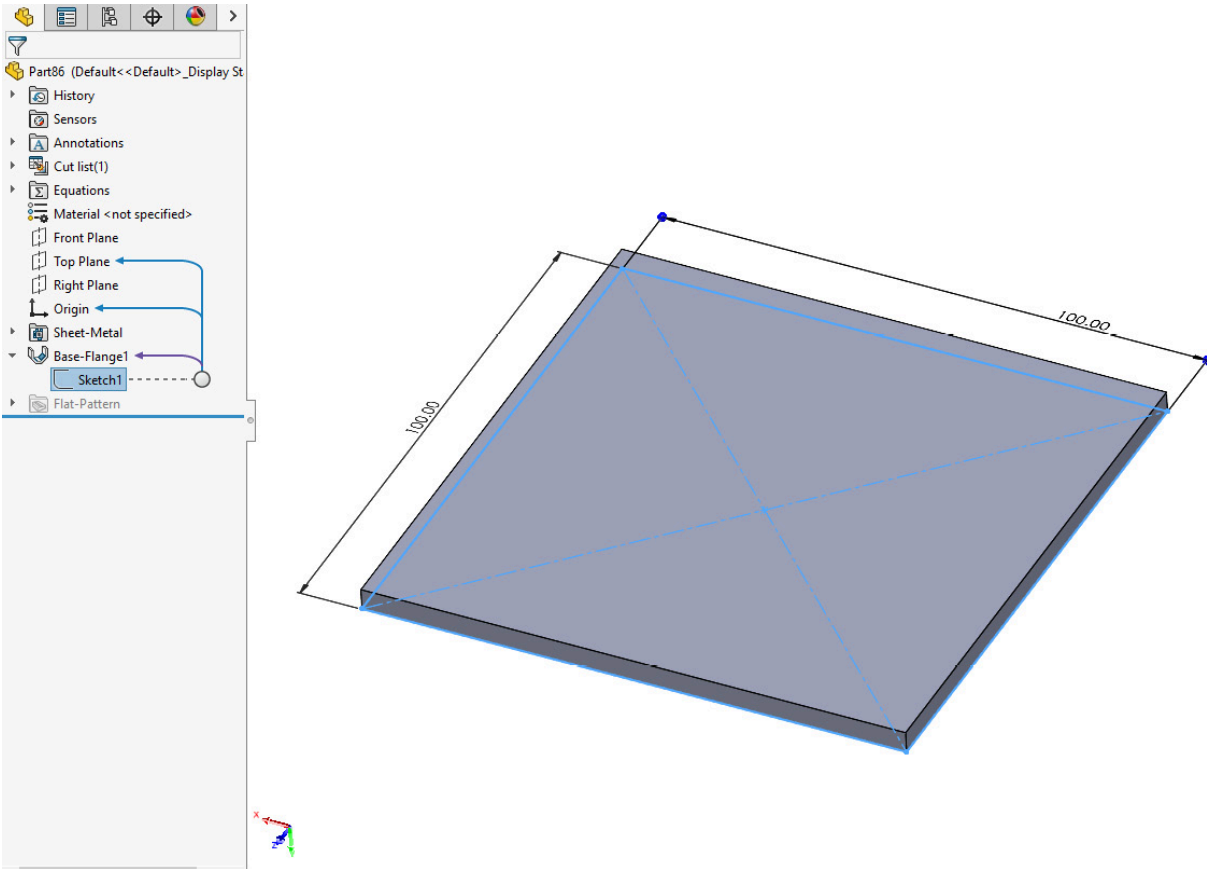

Figure 8.1: Creating a 100x100x4mm Base Flange
1. Start a new *part* document and use the **Center Rectangle** tool to create a **Base Flange** that is fixed to the Origin and is **100x100mm** in size and **4mm** thick. The default Sheet Metal properties can be used, as illustrated in *Figure 8.1*.